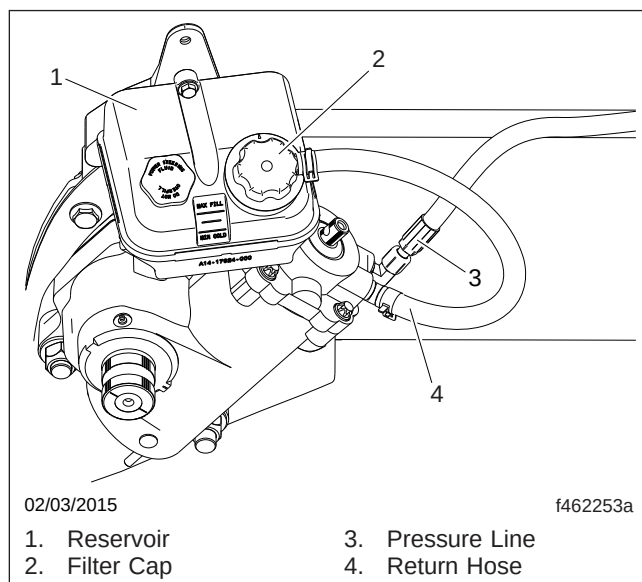

Fig. 4, Power Steering Reservoir
7. Remove the pressure line and return hose (see Fig. 4) from the steering gear and allow the oil to drain.
11. Fill the reservoir with an approved power steering fluid to the line between the MIN COLD and MAX HOT lines. See Fig. 4. See Table 1 for approved power steering fluids.